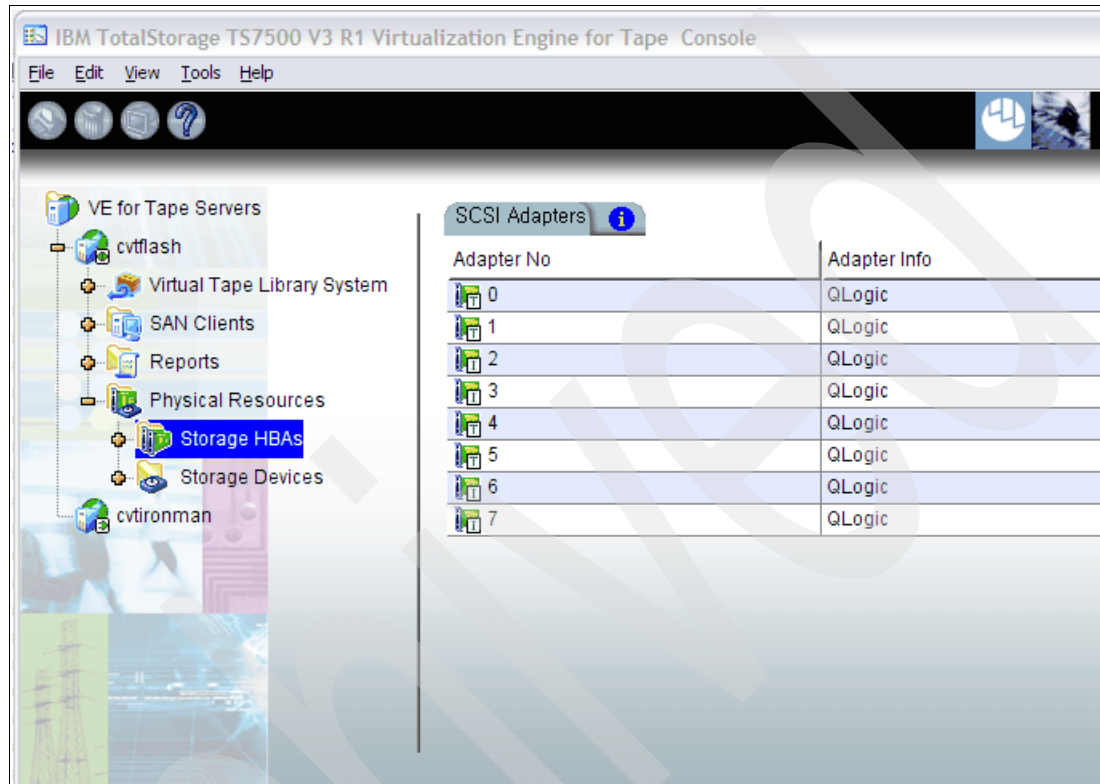
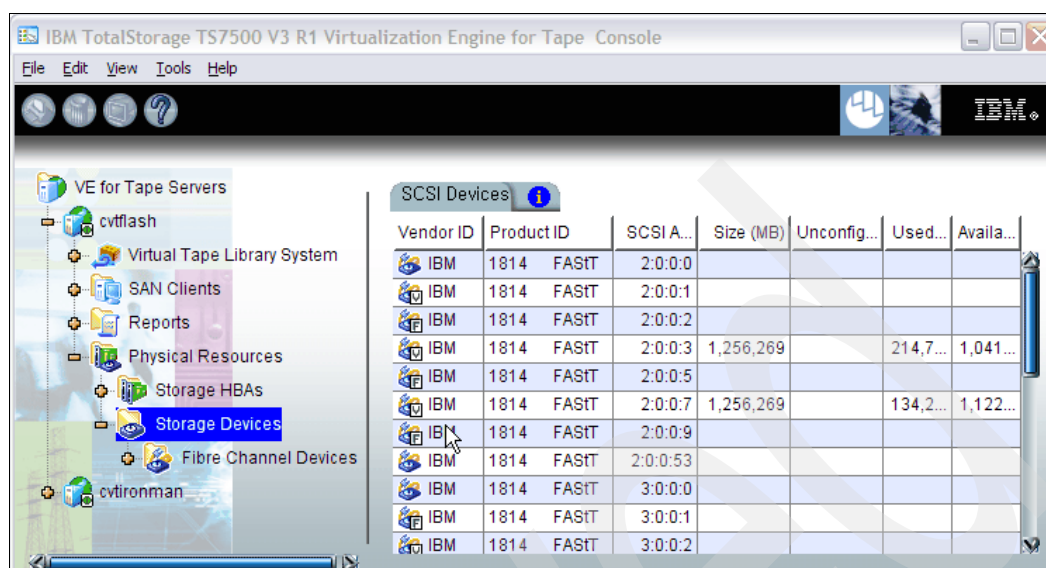

Figure 6-31 TS7530 VE for Tape Server Storage HBAs
Figure 6-33 TS7530 VE for Tape Server storage devices
To verify the TS7530 VE for Tape Server Storage HBA configuration in an Enterprise Edition configuration, left-click **<your TS7530 server>** to expand the menu, then left-click **Storage HBAs** (but do not expand). See Figure 6-31.
2. Left-click **Storage Devices** (but do not expand) as shown in Figure 6-33.
The SCSI address column in Figure 6-33 uniquely identifies each disk resource. The format is A:0:0:L, where A is the adapter number from Figure 6-31 on page 202 and L is the logical unit (LUN) number. For example, 2:0:0:0 is the disk resource accessed through adapter 2 with LUN number 0.